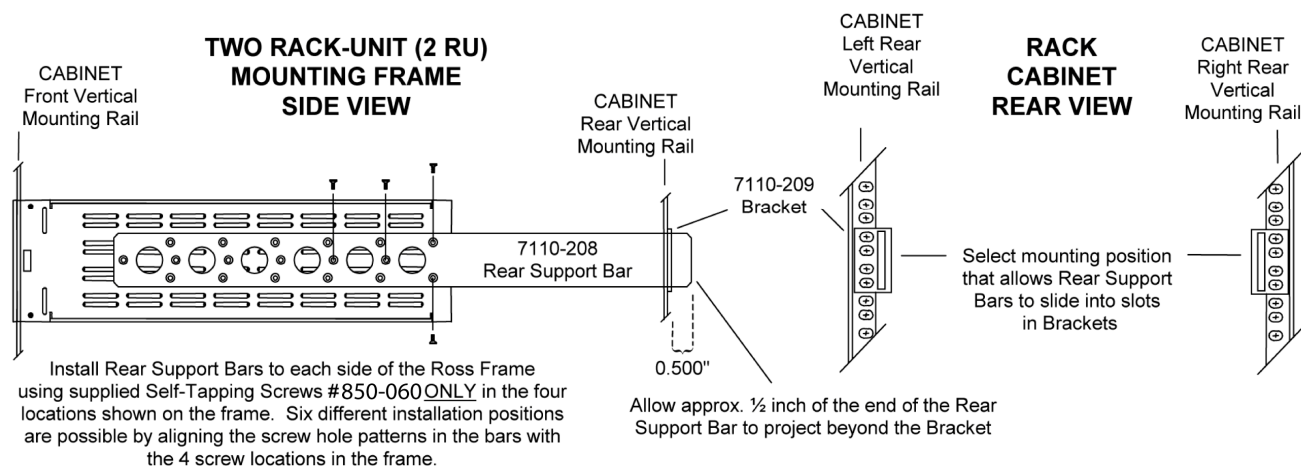

Figure 15. FSB-8320 Rear Support Bars and Brackets Diagram
1. The rear support bars can be attached to the frame in six possible positions; refer to Figure 15. Choose the position that suits the cabinet depth that will give approximately a 1/2 inch (0.5") projection beyond the rear vertical mounting rails. Using four screws per bar, as shown in the illustration, fasten one bar to each side of the frame.